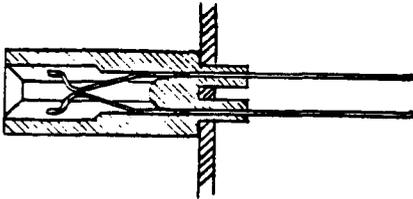

FIGURE 2
2.323 Fig. 2 shows a shorting pin pair in the List 13 connector. The contact ends are not designed with pin ears and hence are not constrained by the retaining walls of the housing. When one pin of a shorting pin pair is removed, the one opposite will spring past the center of the plug-in entry slot. If a plug-in unit is inserted at this time, the pin will be jammed into the connector housing causing damage to both. The dummy board (R4791, Det 10) should be inserted in the connector before a shorting pin is removed.
2.3251 The old style M13 shorting pins which are present in the black connector housings are shaped like the shorting pin pair shown in Figure 2.